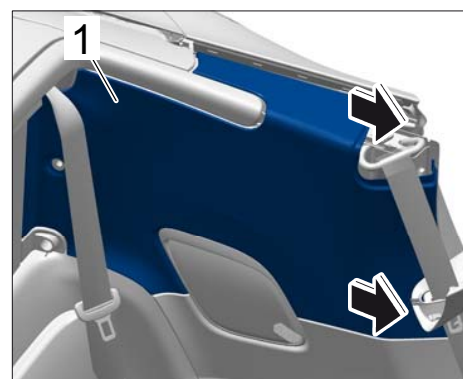

Figure 7
4.5 Unclip side trim panel ⇒ *Figure 7 -1-* at the top and pull it forward ⇒ *Figure 7 -arrow-* out of the guide.